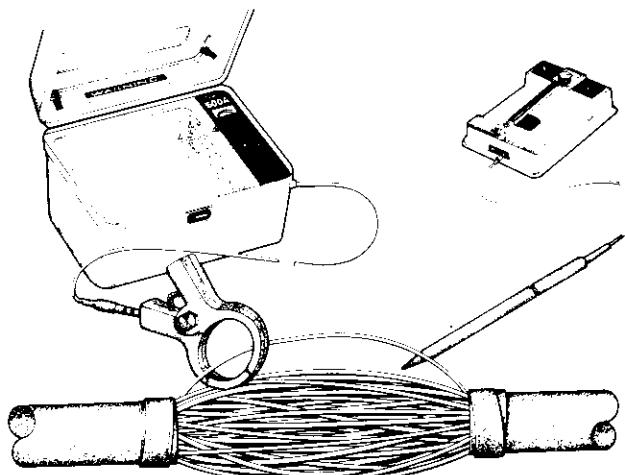

Fig. 13 — Setting a Reference for Conductor Identification
- (1) Open enough shield in the wet cable to gain access to all pairs for tagging.
- (2) Place the Dyna-Coupler around a SINGLE conductor (either tip or ring) of the pair to be identified (Fig. 13).